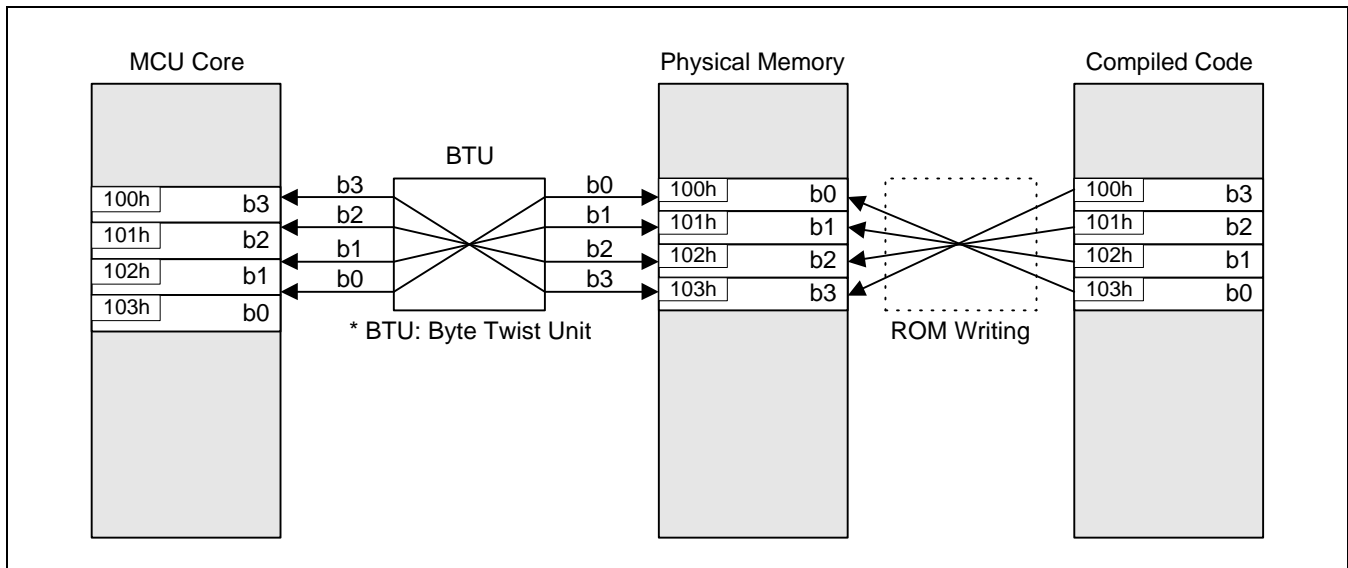

Figure 4-5. The Byte Swap Operation of BTU and the Positions of Data in Memory
- Supports big-endian mode with efficiency for most graphic device drivers (refer to Figure. 4-5).
KS32C65100 core and the internal peripherals support Big-endian configuration, while external memories like ROM, SRAM, and DRAM can have Little-endian configuration. Instead of having Big-endian physical memory configuration, there is BTU (Byte twist unit) in KS32C65100, internally. The main role of BTU is to swap the bytes in word as shown in Fig 4.5. In other word, when core access "11" byte, it can get the "00" byte from physical memory. To put the Big-endian data in Little-endian memory, Compiled code with the option of Big-endian has to put in memory by swapping byte in a word as shown in Fig 4.5 due to the double swapping (BTU and compiled code swapping), KS32C65100 can support Big-endian mode without any problem. The reason why we have double swapping, is due to internal H/W implementation issue.